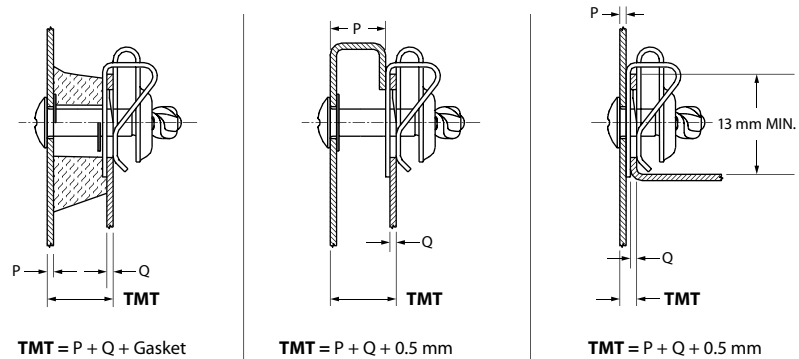

Figure 1: Total Material Thickness (TMT)
1. Calculate the Total Material Thickness (TMT) using Figure 1 below.